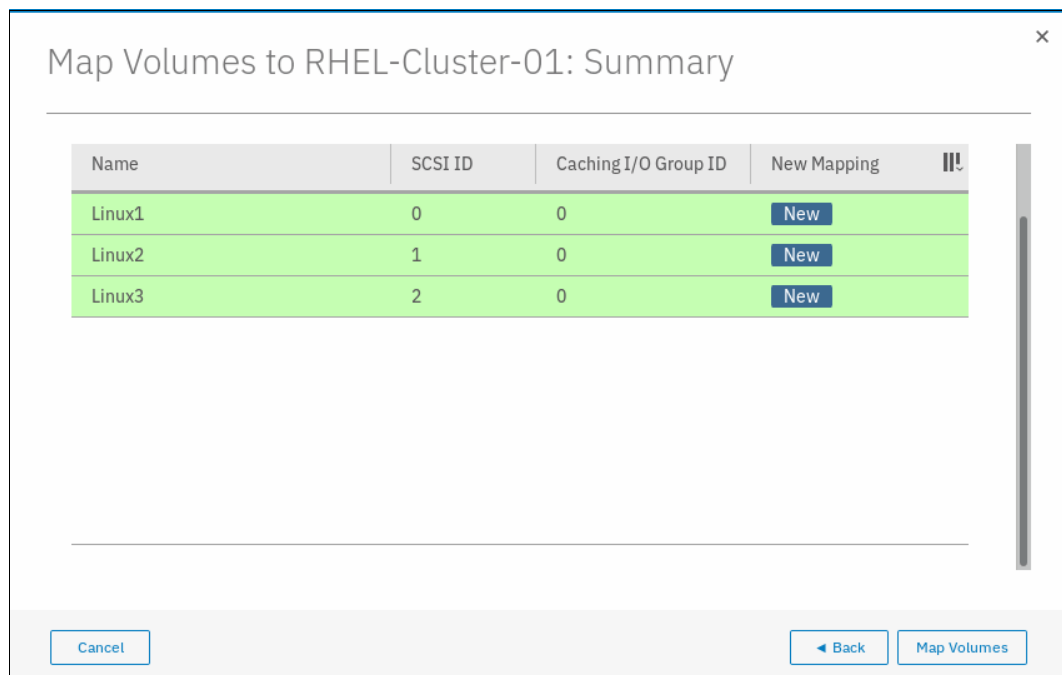

Figure 5-89 Summary of volumes to be mapped to host cluster
6. Click **Next**. A summary window that includes the list of volumes to be mapped opens, as shown in Figure 5-89.